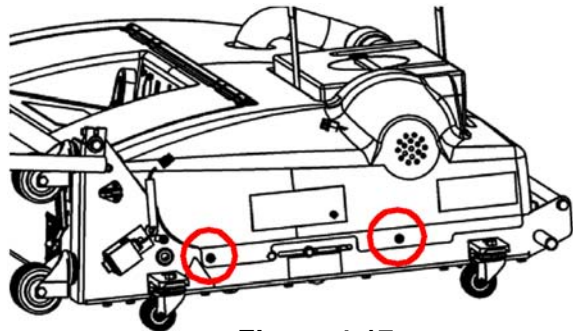

Figure 4-17
1. Unlatch the oil compartment door latches, disconnect the vacuum hose and remove the waste tank, remove the cap from the cleaner tank, remove the two screws from each side of the hood (see Figure 4-17), and lift the hood from the frame. Set the screws aside.